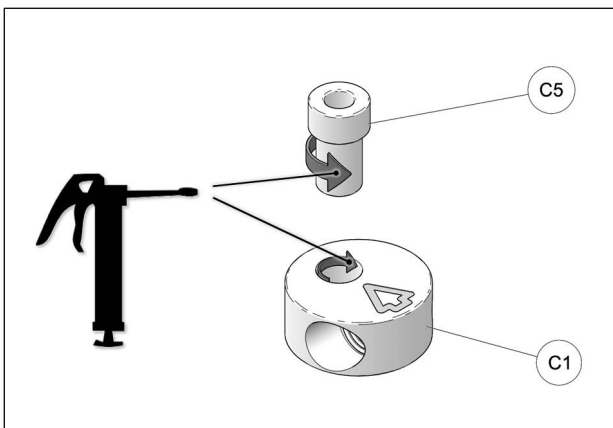

Fig. 22
14. Apply grease evenly all around step spacer bushing (C5) and in hole of aluminum disk (C1) when assembling these parts together. See Fig. 22